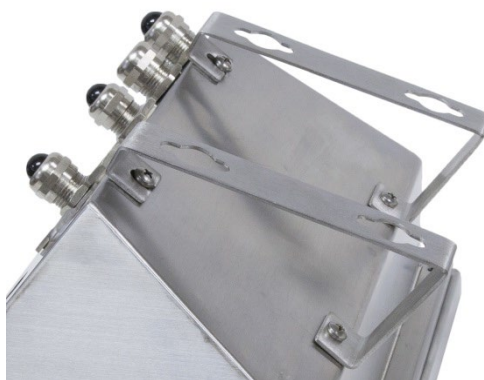

Figure A-19: Attaching the Wall-Mounting Brackets
1. Bolt the two brackets to the bottom of the enclosure using the four M4 screws included with the indicator. The brackets should be attached as shown in Figure A-19.